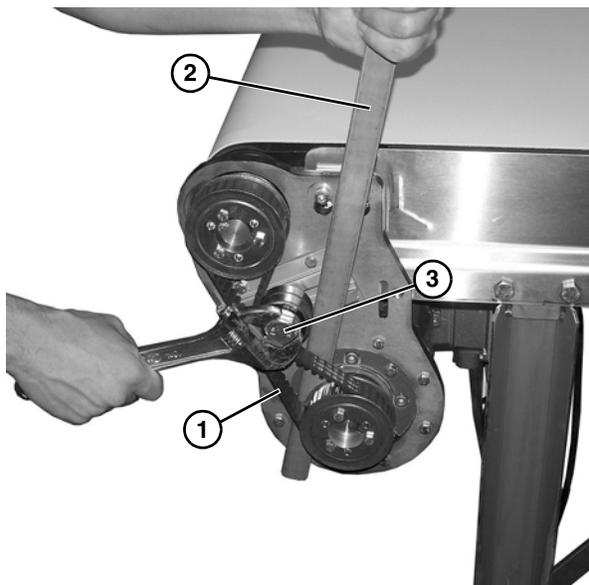

Figure 9
9. Tension timing belt (**Figure 9, item 1**) sufficiently to prevent belt skipping. A pry bar (**Figure 9, item 2**), may be used, as shown, to assist in belt tensioning.
10. Tighten tensioner screw (**Figure 9, item 3**) to secure position.